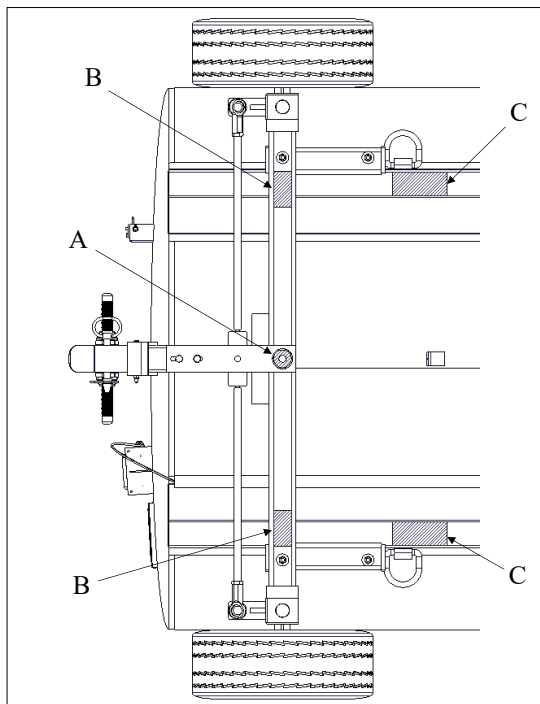

Figure 4-11 Lift Points
To remove the entire Rear Undercarriage assembly, the equipment must have the back end raised. See Sections 4.12, and 4.13 with Figure 4-11.
- Raise equipment with suitable maintenance jack (see Figure 4-11 reference arrow A for jack placement) and allow for two inches of space between the wheels and the ground.
- Place cribbing under tank skids to safely support the equipment. (See Figure 4-11, reference points labeled with a C).